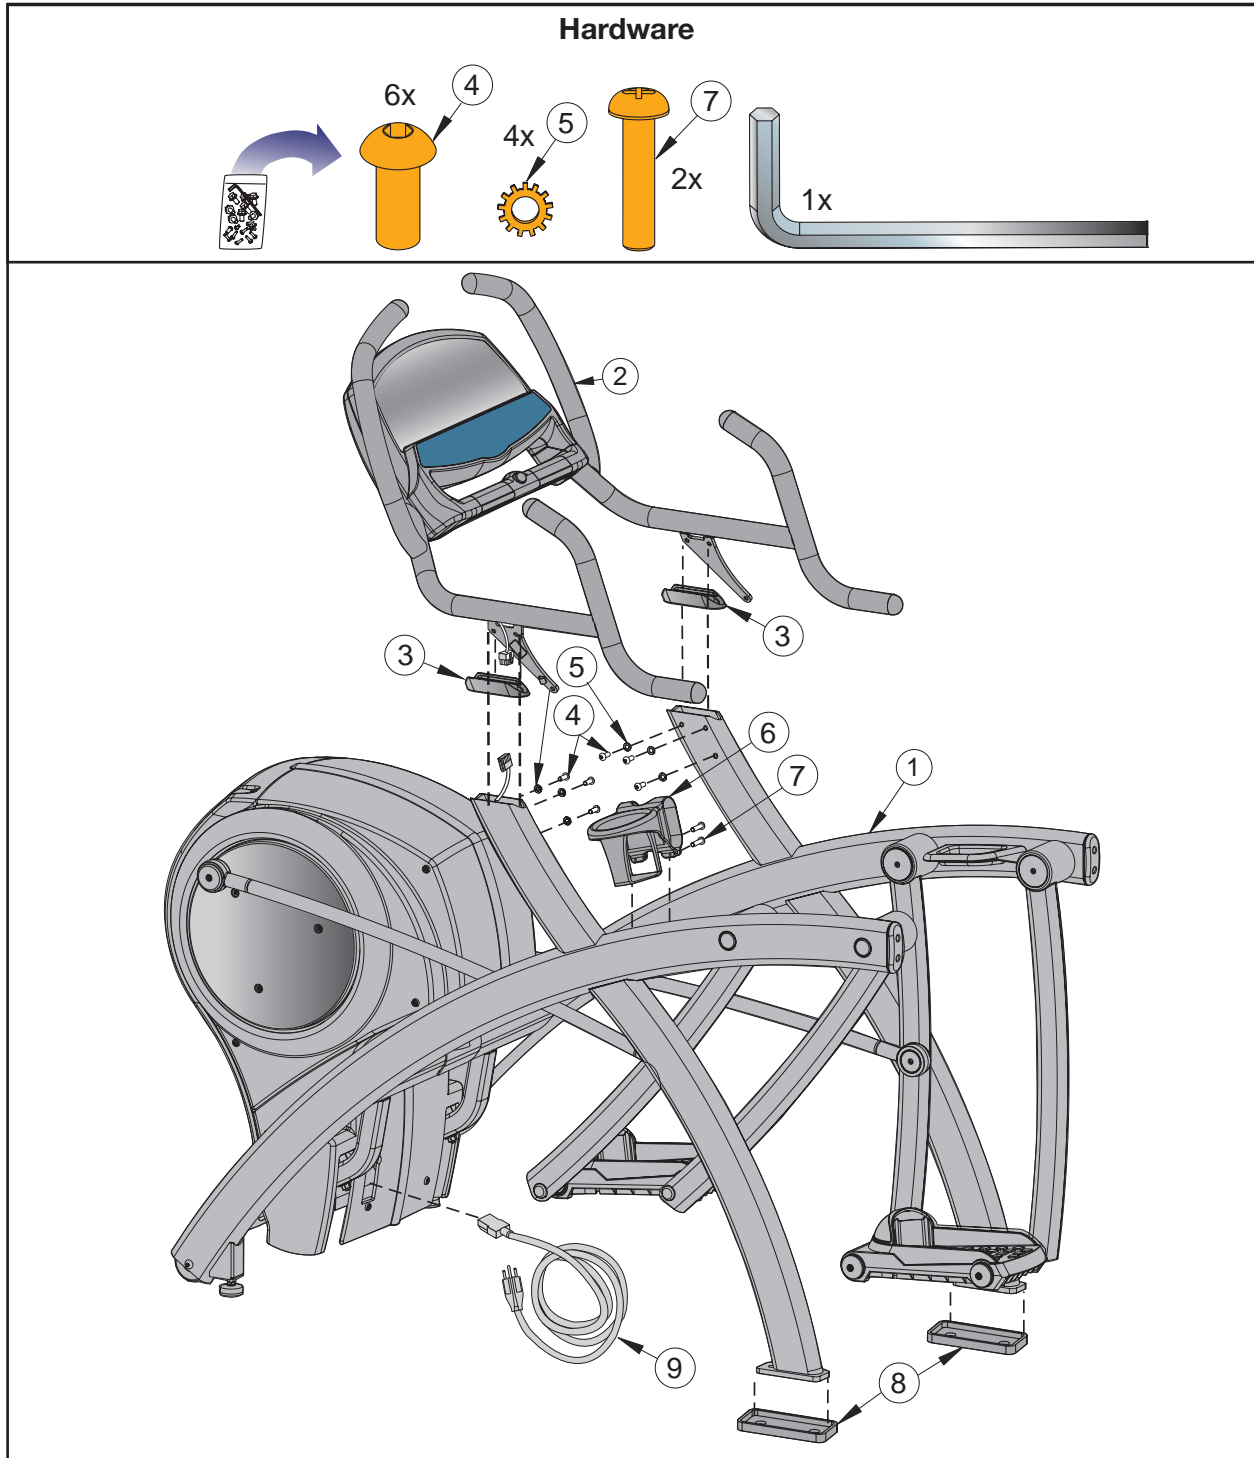

Figure 2
E. Check off (☑) each item in the hardware pack as you find it. See Figure 2.